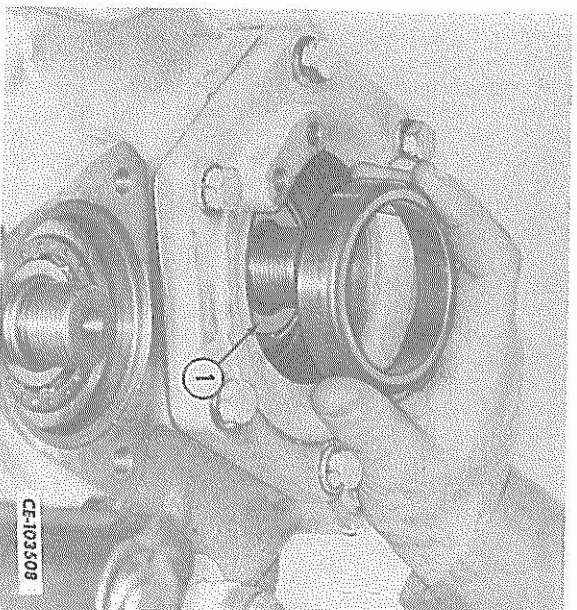

FIG. 84 — Installing the Pinion Shaft Front
56. Install the outer cone (1, Fig. 84) on the shaft (small diameter of the taper up) until it bottoms on the inner cone. Install the outer cup until it bottoms on its cone (Fig. 84).